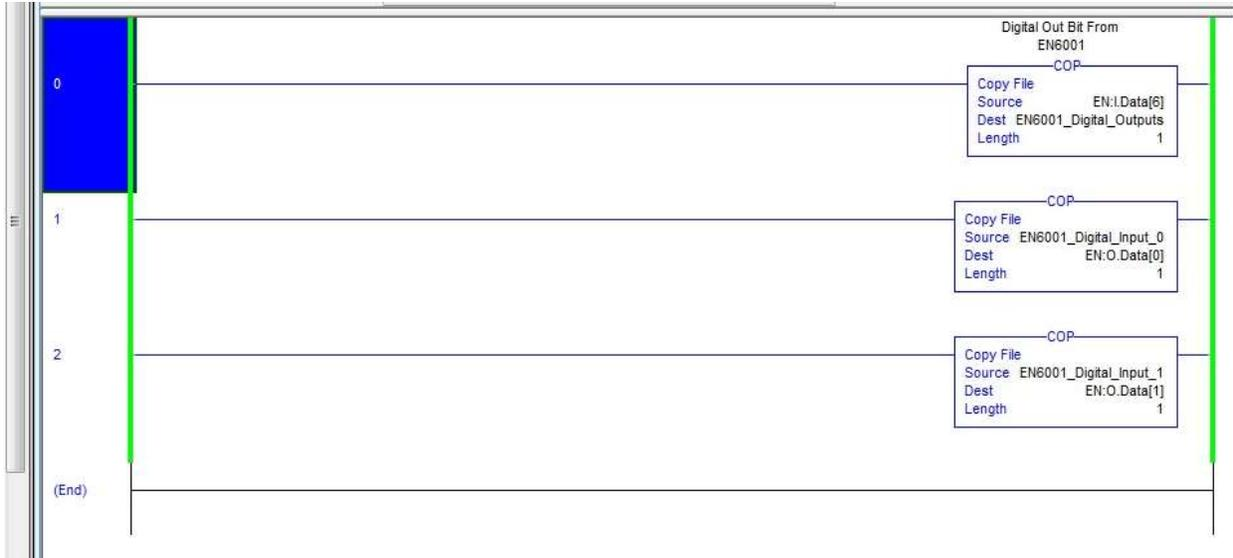

Figure 11 Copy Instructions
2.2.4. Create the three copy (COP) instructions shown in Figure 11. Keep in mind the Outputs of the EN6001 are Inputs to the PLC and vice versa.